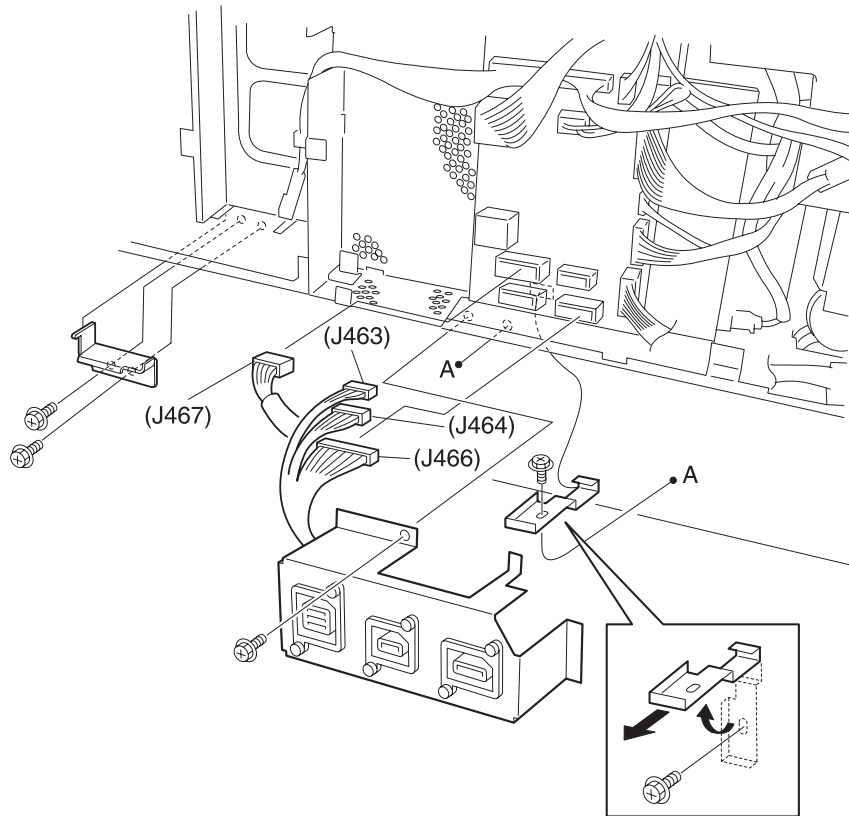

Figure 1
11. Remove the screw securing the retaining clip that is located under the Option Connector Bracket, and remove the clip (Figure 1).